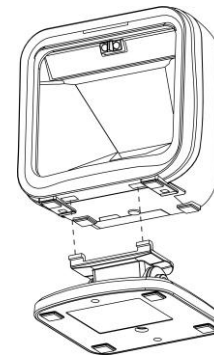

Figure 3
1. As shown in Figure 3, plug in two connection-arms to the two associated notches on the bottom of the image platform.